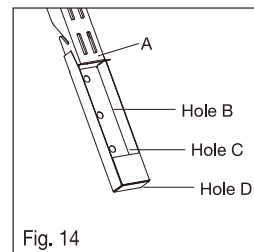

Fig. 14
- Align the drilling template box (O) as a locator as shown and mark the holes on the wall (see Fig. 14).